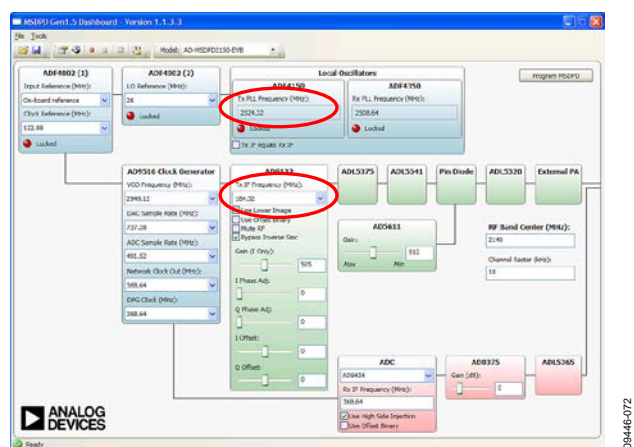

Figure 72. Controls Used to Choose SA Settings and Correct for Image + LO
1. Connect the Tx output to a spectrum analyzer (SA) to monitor the single sideband spectrum. Set the center frequency on the spectrum analyzer to the Tx PLL frequency. Set the span to $>2 \times$ Tx IF frequency. See Figure 72.